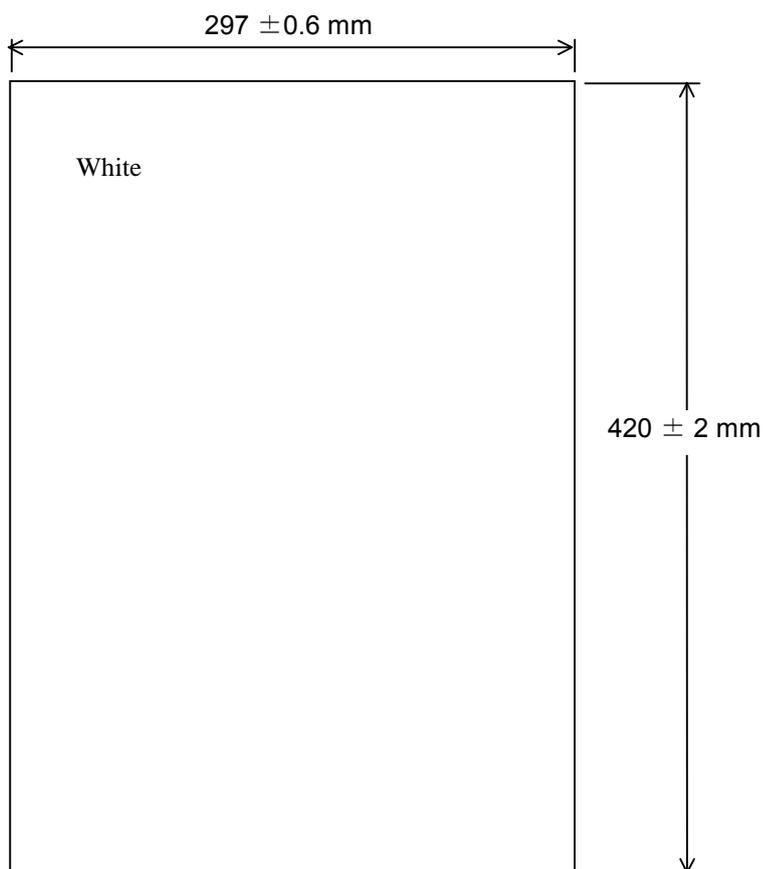

Figure 6.1.3 Magnification / Offset Adjustment Test Sheet
Before this adjustment, obtain the Test sheet described in the Figure 6.1.3. This is an A3 size sheet of paper.
| 0 | ADF sub-scanning magnification adjustment | Default Prepare the test sheet described in Figure 6.1.3. |
- (2) Set a white A3 size sheet (Figure 6.1.3) on the ADF paper chute in Portrait orientation, and adjust the sheet guide to the width of the sheet.
- Before this adjustment, obtain the Test sheet described in the figure 6.1.3. This is an A3 size sheet of paper.
| 0 | ADF front | Default Prepare the test sheet described in figure 6.1.3. |
| 1 | ADF back | Prepare the test sheet described in figure 6.1.3. |
- Set a white A3 size sheet (Figure 6.1.3) on the ADF paper chute in Portrait orientation, and adjust the sheet guide to the width of the sheet.